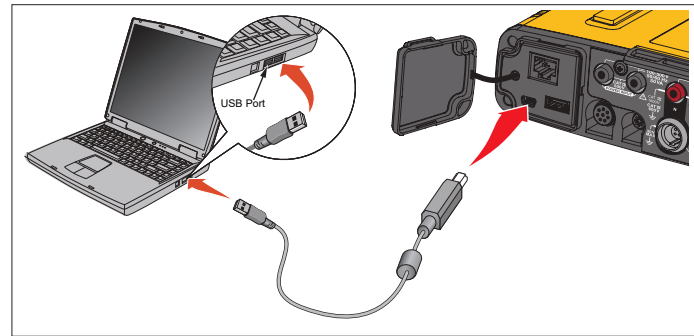

Figure 9. Power Logger to PC Connections
3. Connect the USB cable to the USB ports of the computer and the Logger. See Figure 9.
A green WiFi Hotspot LED indicates that the WiFi Hotspot is enabled. If this LED is off, connect the USB cable. See Figure 9 and go to Step 5.